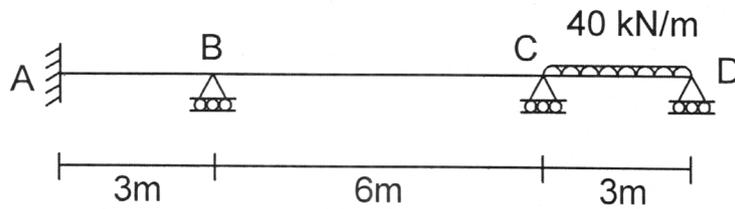

Fig. 6
6. Analyse the continuous beam as shown in fig. 6 support B has a downward settlement of 30mm. Calculate the support reaction at D by flexibility matrix method. Take $EI = 5600\text{kNm}^2$. 20